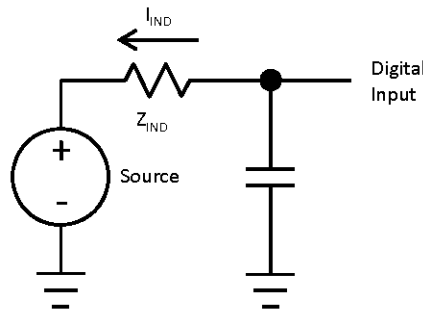

**Figure 2. 5 V Tolerant Input  $I_{IND}$  Parameter**
5. Examples calculated using  $V_{IL}$  relation,  $V_{DD}$ , and max  $I_{IND}$ :  $Z_{IND} = V_{IL} / I_{IND}$ . This is the impedance needed to pull a high signal to a level below  $V_{IL}$  due to leakage when  $V_{IL} < V_{IN} < V_{DD}$ . These examples assume signal source low = 0 V. See Figure 2.